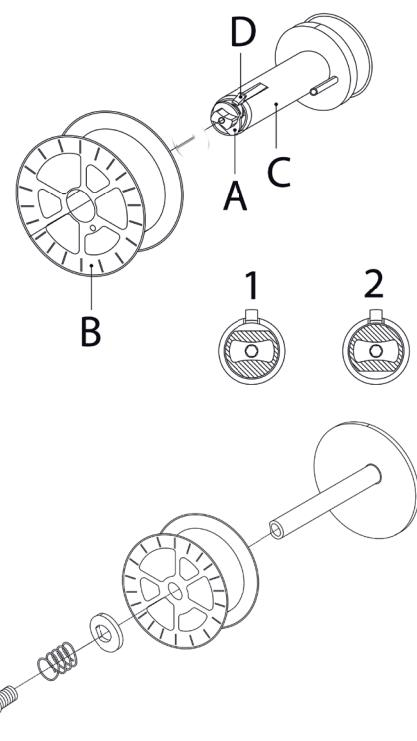

Figure 6
- Loosen the nut (A) of the spool holder (position 1) (brake drum). In the case you are replacing the wire spool, extract it by pushing the snap tongue (D) (Fig 6). Remove the plastic protection from the spool. Place it on the spool holder. Tighten the lock nut (A) turning it to position 2. (Fig. 6).